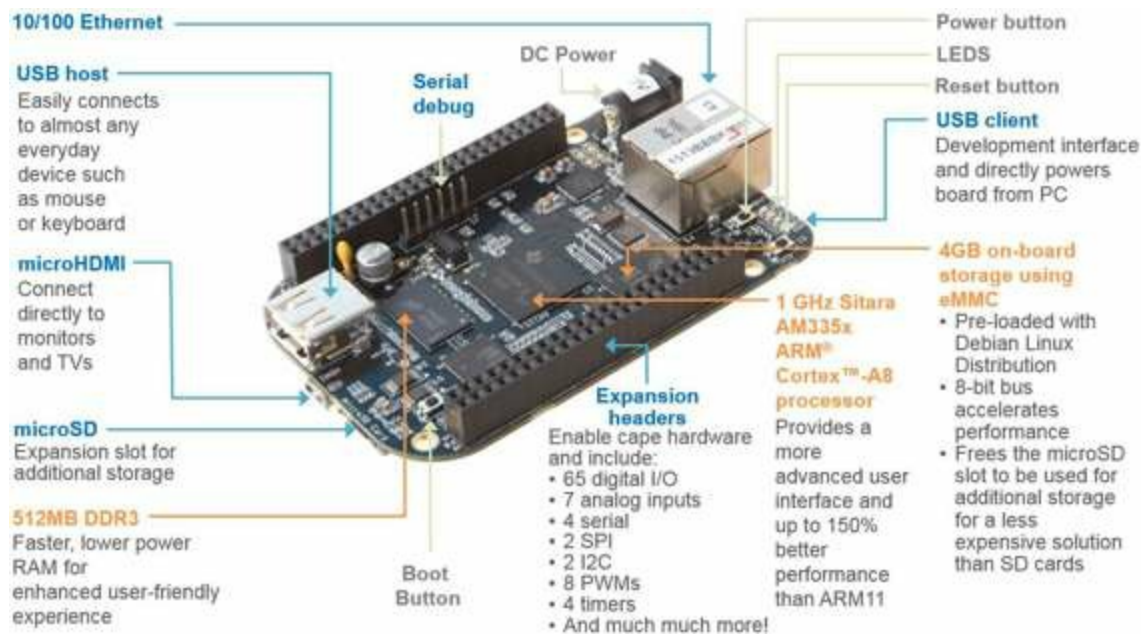

Figure 1-8. Details of the BeagleBone Black
**Figure 1-8** provides more details on the BeagleBone Black.